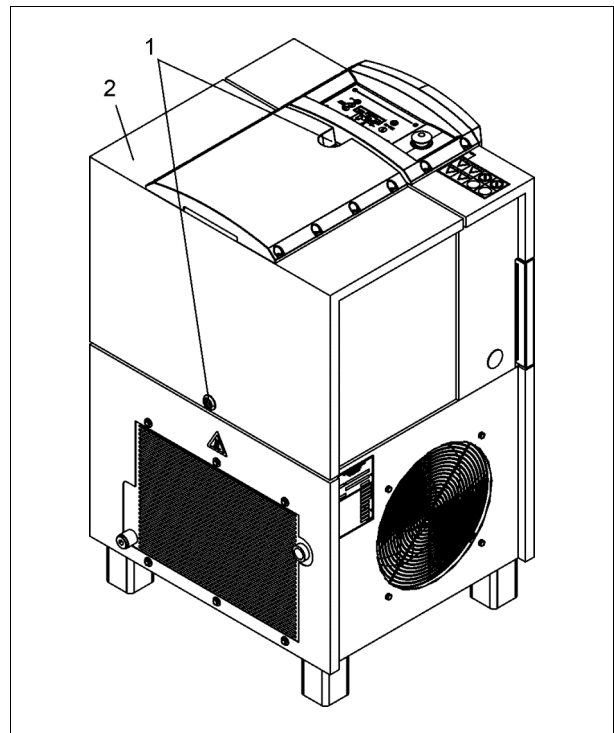

Fig. 5
Opening / closing the hood (Fig. 5)
- Open turnbuckle (- 1 - Fig. 5)
- Remove the hood (- 2 - Fig. 5) and put it down at a safe place